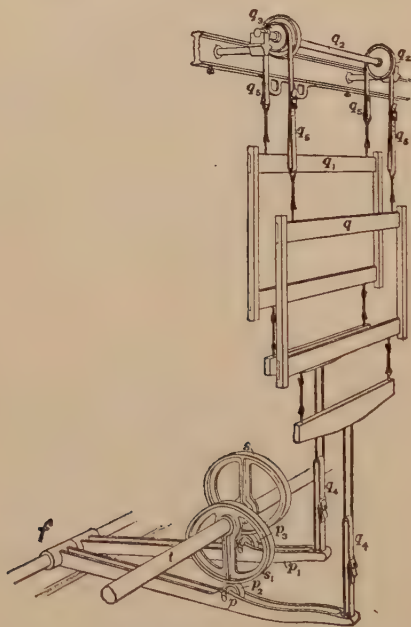

Figure 4. SHEDDING MOTION OF A LOOM
**Throw of Cams.** Consider figure 4. From our study of levers we see that the treadle is a lever, the shed of the harness is the resistance distance; the *throw* (or difference between the largest and smallest radius) of the cam is the power distance and the center of the stud,  $f$ , is the fulcrum. Hence, considering the front harness,  $q$ :